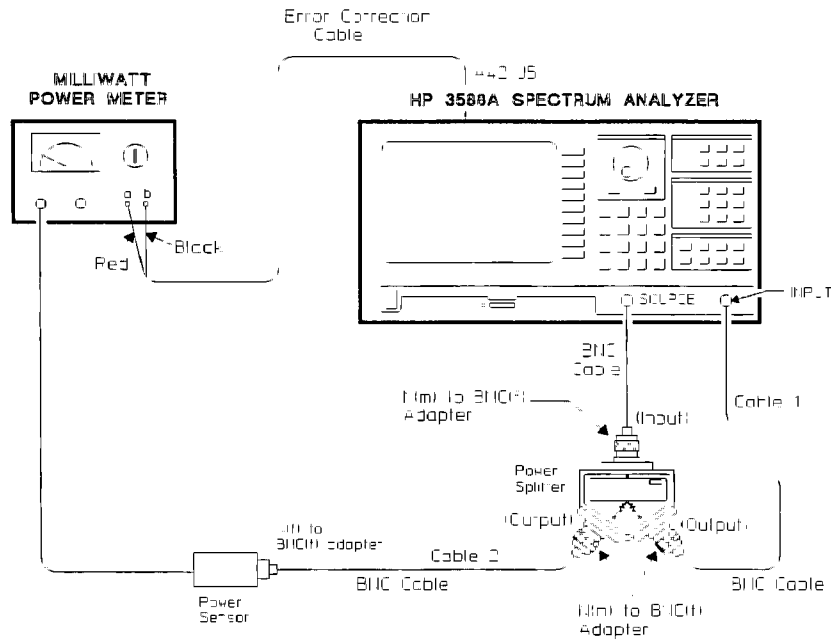

Figure 3-10. Connecting Error Correction Cable
- 17 Connect the error correction cable from the milliwatt power meter (red to A and black to B) to A42 J5 (EXT LVL) See figure 3-10.